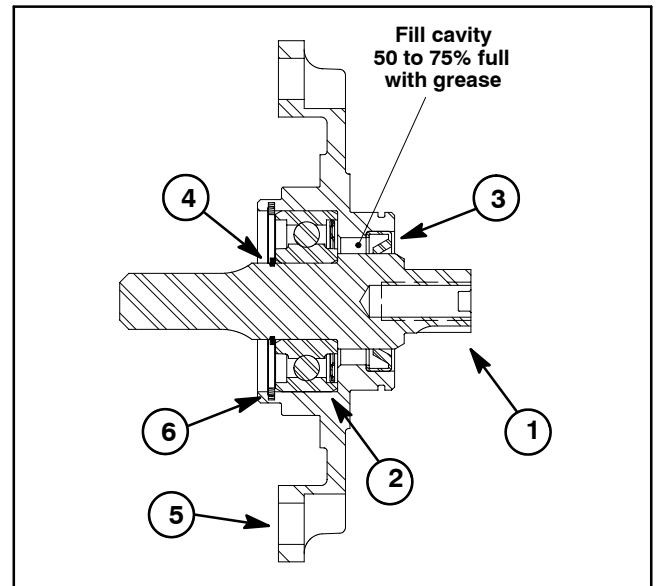

Figure 15
1. Install bearing on drive shaft by pressing equally on the inner and outer bearing races. Install the bearing so that the bearing seal is closest to the shoulder on the shaft. Install retaining ring (item 7) onto shaft to retain bearing.
3. Fill cavity between bearing location and grease seal 50% to 75% full with high temperature Mobil XHP-222 grease (or equivalent) (Fig. 15).
4. Carefully slide shaft and bearing fully into pivot hub bore taking care to not damage the grease seal. Install retaining ring (item 8) to secure bearing in pivot hub.
5. Install new o-ring (item 10) into groove in pivot hub flange.
6. Slide idler plate onto pivot hub and secure with retaining ring (item 4).